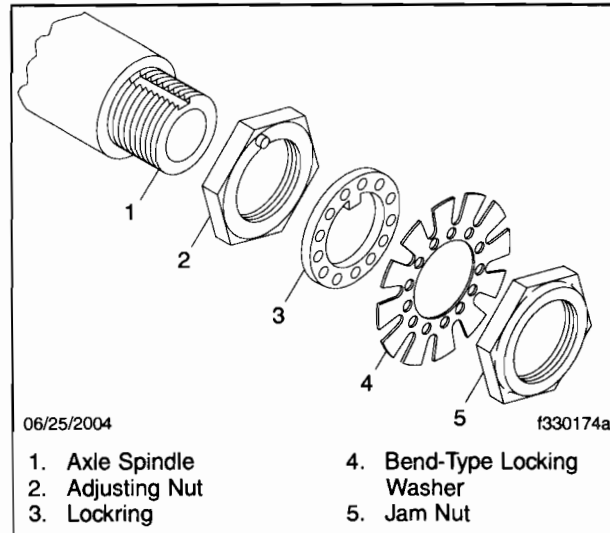

Fig. 1, Four-Piece Wheel-Bearing Retaining System
11. Remove the jam nut, lockwasher, and lockring. See Fig. 1.
- 23.4 Install the locking device (bend-type locking washer and a lockring) and the jam nut. See **Fig. 1**.